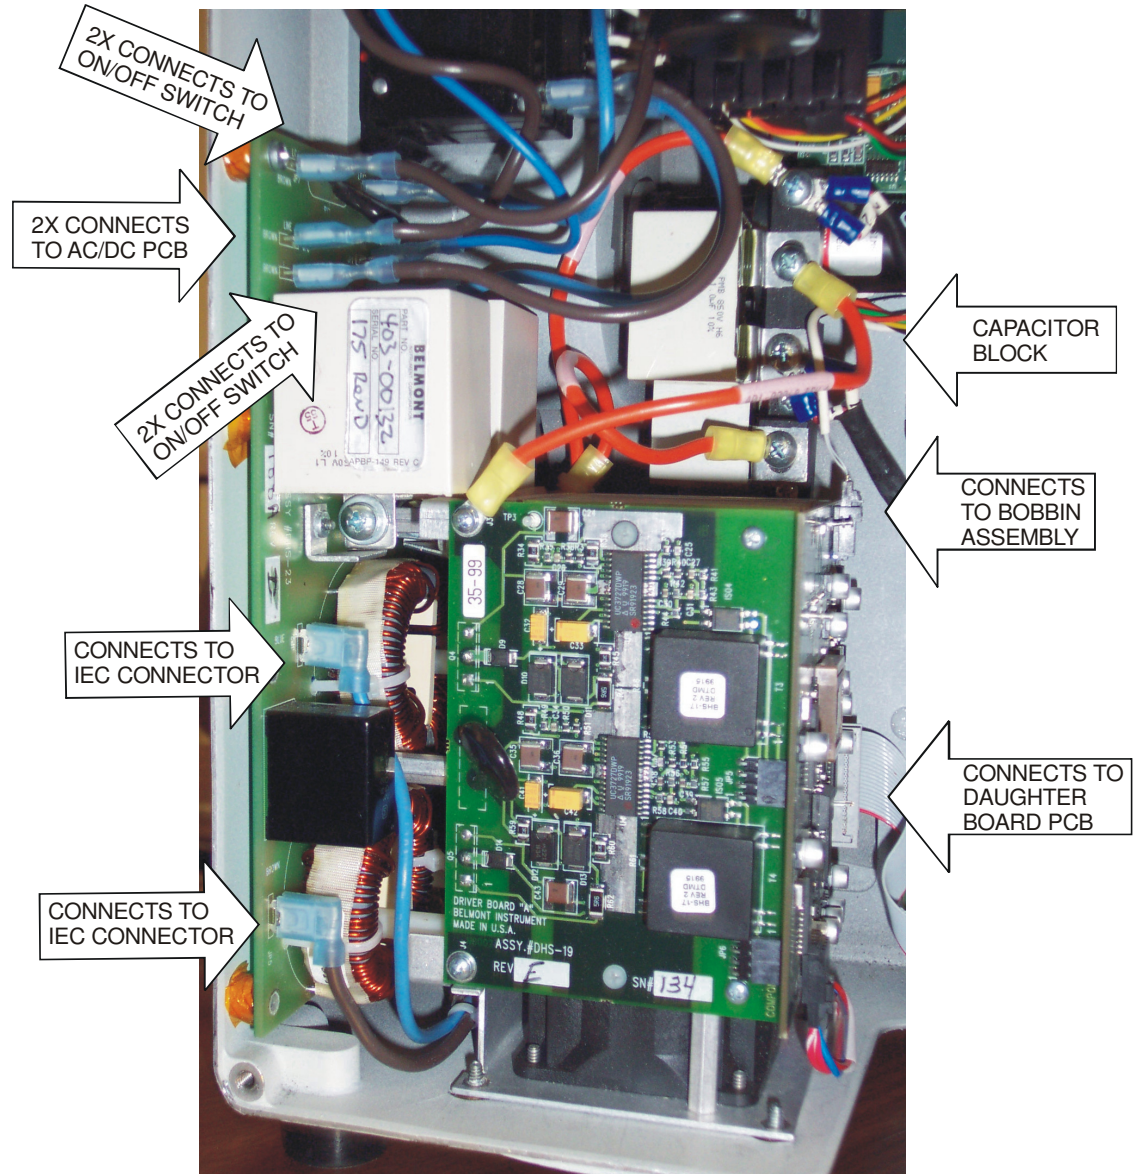

Figure 8: Power Module Assembly
4. Remove 3, 10-32 x 1/2 pan head Phillips screws, lugs and flat washers from Capacitor Block. Figure 8.
6. Reattach 3X pan head Phillips screws, lugs and flat washers to Capacitor Block. Figure 8.
8. Reattach all lugs. Figure 8.